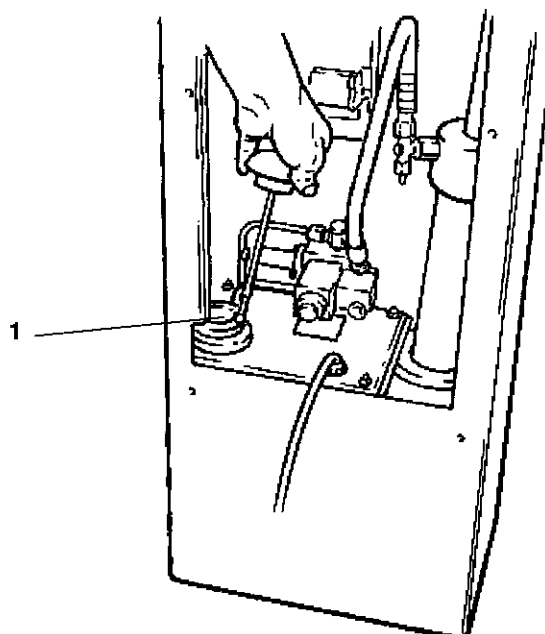

Fig. 7-15
- Pour in the quantity of oil required through the opening in the venting plug (Fig. 7-15, 1).